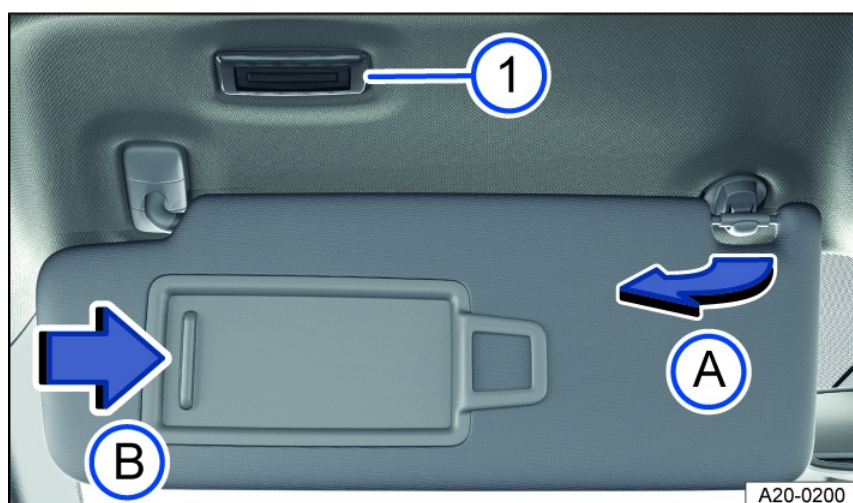

Fig. 81 In the front of the headliner: sun visor.
- Remove from the holder and tilt toward the door *fig. 81*.
When the sun visor is folded down, there is a vanity mirror located behind a cover. The lights *fig. 81* turn on when the cover *fig. 81* slides open.